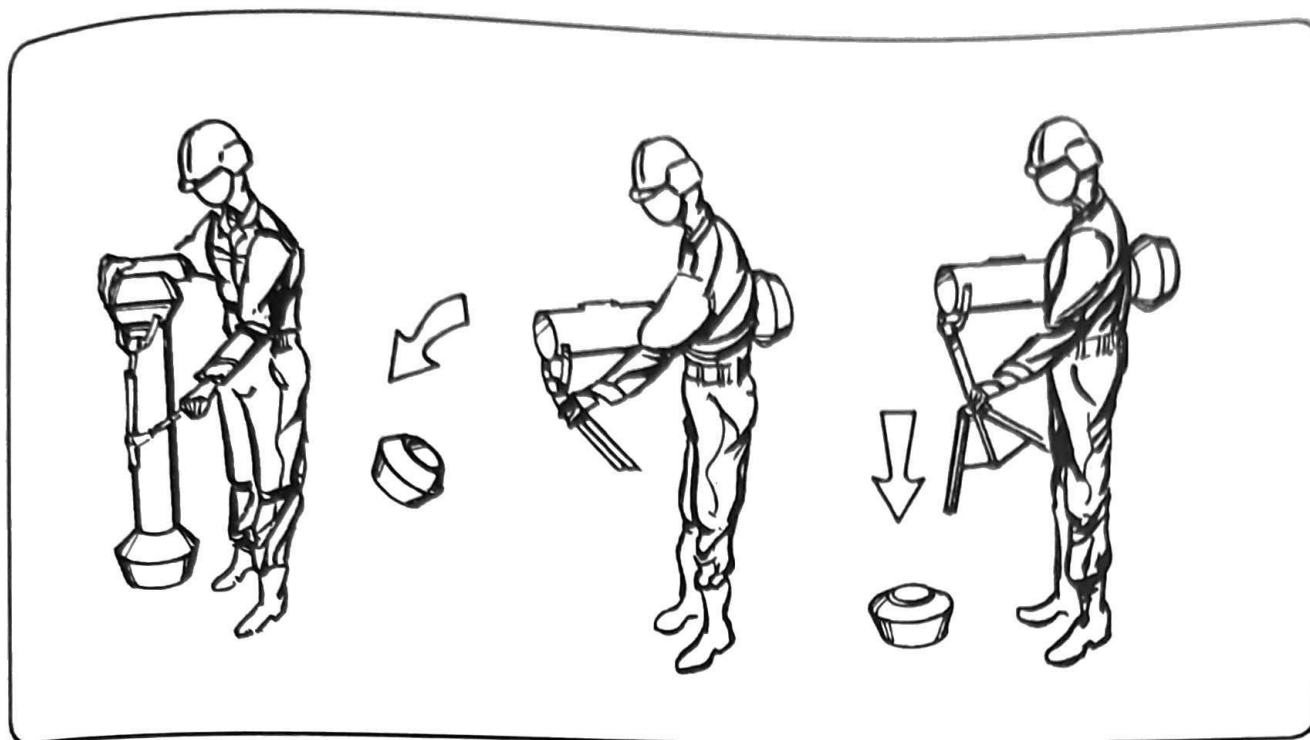

Figure 4-2. Releasing the bipod.
a. **Releasing the Bipod.** Unsnap the bipod retaining strap (A, Figure 4-2). Push the bipod forward until resistance is met. Then, snap off the forward shock absorber. Ensure that the desiccant bag, attached to the forward shock absorber, is not lodged in the launch tube (B, Figure 4-2). While still holding the round, depress the bipod friction lock. Push the bipod legs downward to number 4 or 5, then release the friction lock (C, Figure 4-2).